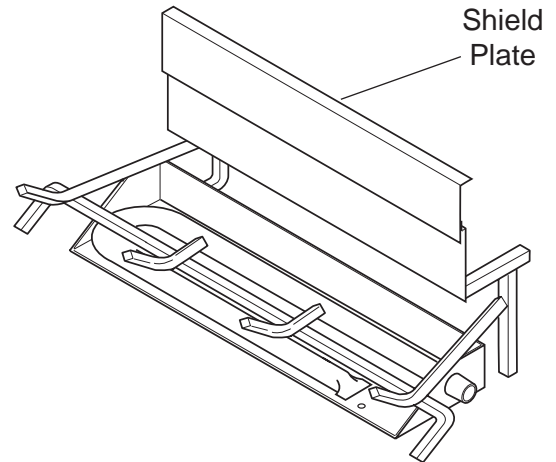

Figure 67 - Sliding Shield Plate Down Back of Burner Pan
1. Slide shield plate down back of burner pan. *See Figure 67.*